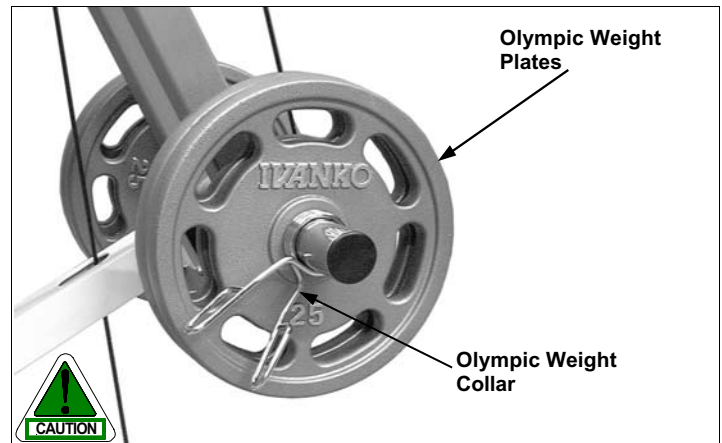

Fig. 2 **Caution:** Use collars to prevent the weight plates from falling off the weight prongs of the **Carriage (#10)**
10. Secure the weight plates using collars to prevent the weight plates from falling off the weight prongs of the **Carriage (#10)**. Refer to **Fig. 2** for further illustration of this instruction.